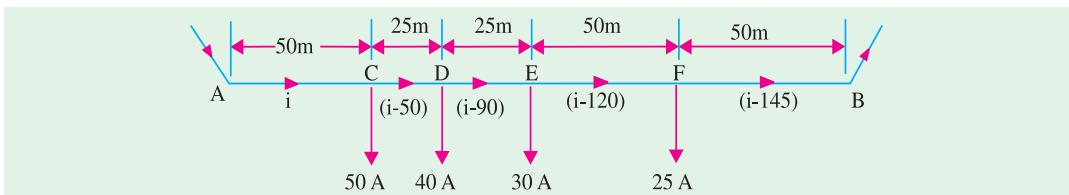

Fig. 40.17
**Solution.** As shown in Fig. 40.17, let current fed at point A be  $i$ . The currents in various sections are as shown. Resistance per metre of the distributor (go and return) is  $0.08/100 = 0.0008 \Omega$ .